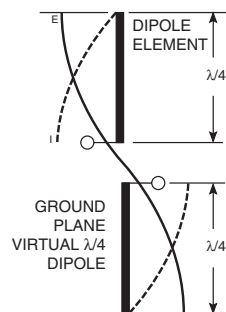

Figure 39: Dipole Antenna
4. In many antenna designs, particularly $\frac{1}{4}$ -wave whips, the ground plane acts as a counterpoise, forming, in essence, a $\frac{1}{2}$ -wave dipole (Figure 39). For this reason, adequate ground plane area is essential. The ground plane can be a metal case or ground-fill areas on a circuit board. Ideally, it should have a surface area less than or equal to the overall length of the $\frac{1}{4}$ -wave radiating element. This is often not practical due to size and configuration constraints. In these instances, a designer must make the best use of the area available to create as much ground